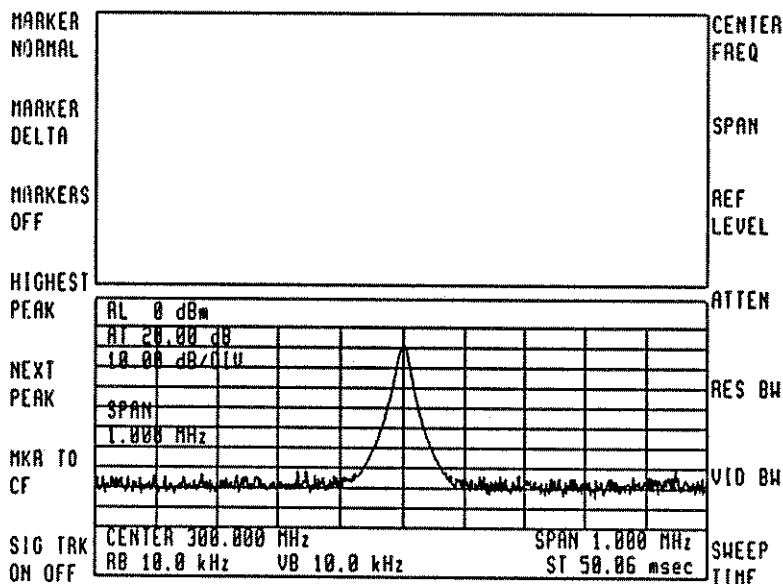

Fig. 40
1. Configure a screen with multiple windows, as in Figure 40. (See the **build window** example.)